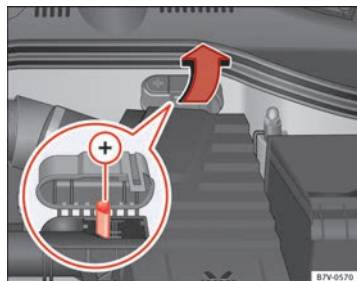
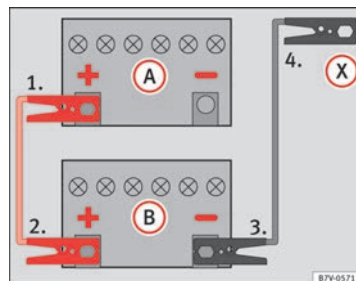

Fig. 217 In the engine compartment: positive pole for starting assistance (+).
Fig. 218 Jump lead connection diagram when the assistance vehicle does not have a Start-Stop system: flat battery (A) and battery supplying current (B).
- Likewise, open the battery cover in the engine compartment ⇒ page 292, or remove the positive pole cap from one side1), in the direction of the arrow ⇒ fig. 217.
- Connect one end of the **red** jump lead to the positive terminal ⇒ fig. 218 (+) or ⇒ fig. 217 (+) of the vehicle with the flat battery (A) ⇒ Δ.
- Connect the other end of the **red** jump lead to the positive terminal (+) in the vehicle providing assistance (B).
- For vehicles **without Start-Stop system**: Connect one end of the **black** jump lead to the negative terminal (-) in the vehicle providing assistance (B) ⇒ fig. 218.